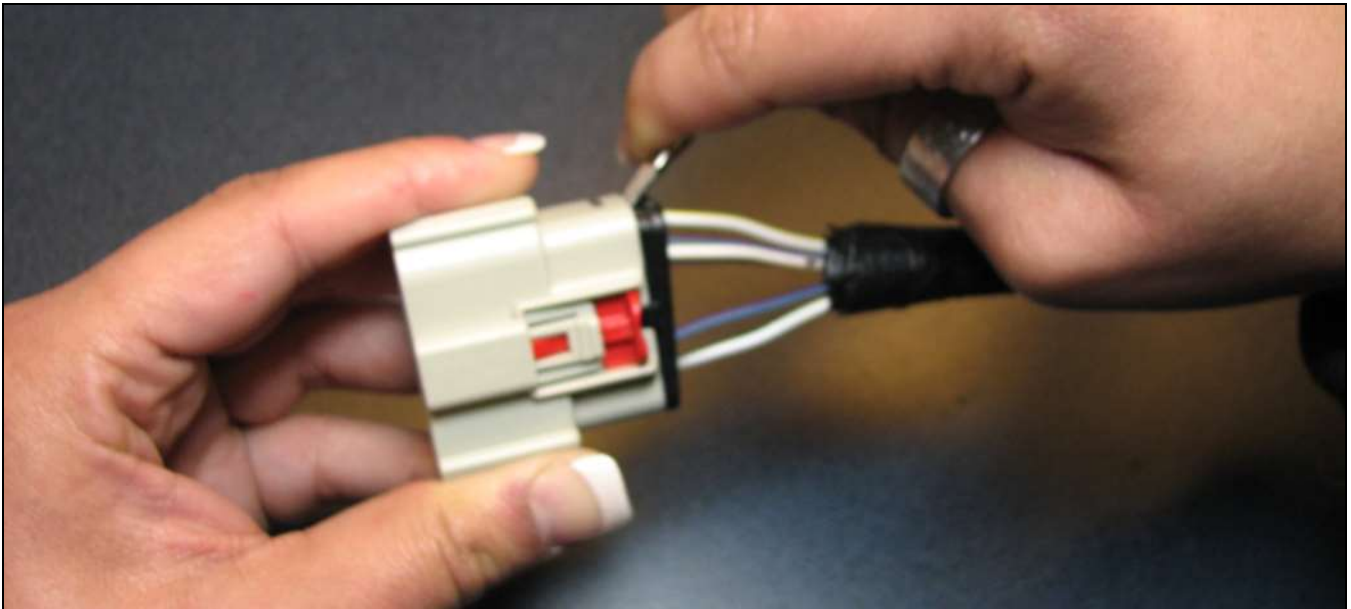

Figure 5
1. Using a suitable tool release the black weather pack retainer at the wire side of the connector (Figure 5).